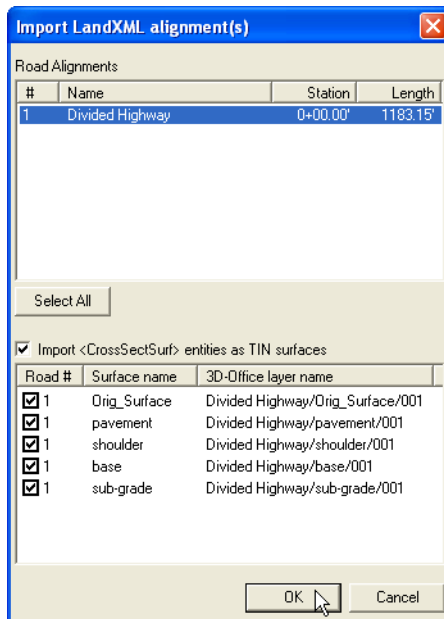

Figure 6-11. Select LandXML Alignment(s)
- On the **Import LandXML alignment(s)** dialog box, select the desired alignment(s) (Figure 6-11 on page 6-8) and press **Open**.